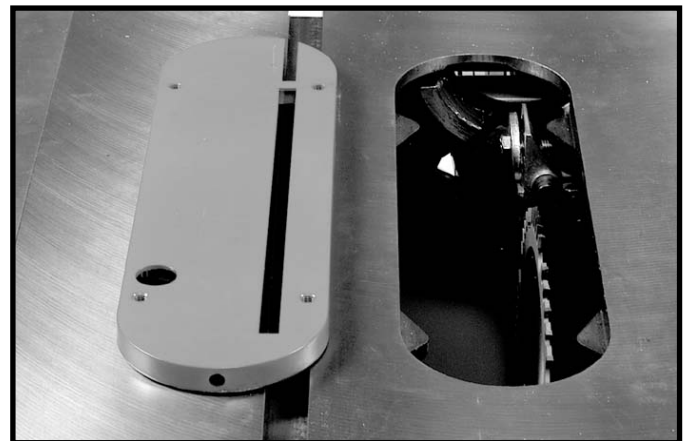

Fig. 22
1. Remove the table insert Fig. 22. Raise the saw arbor, by turning the locking handle on the front of the saw, counter clockwise and then turn the wheel on the front of the saw clockwise as far as it will go, and remove the saw blade from the machine by following the instructions in section "REMOVING THE SAW BLADE".